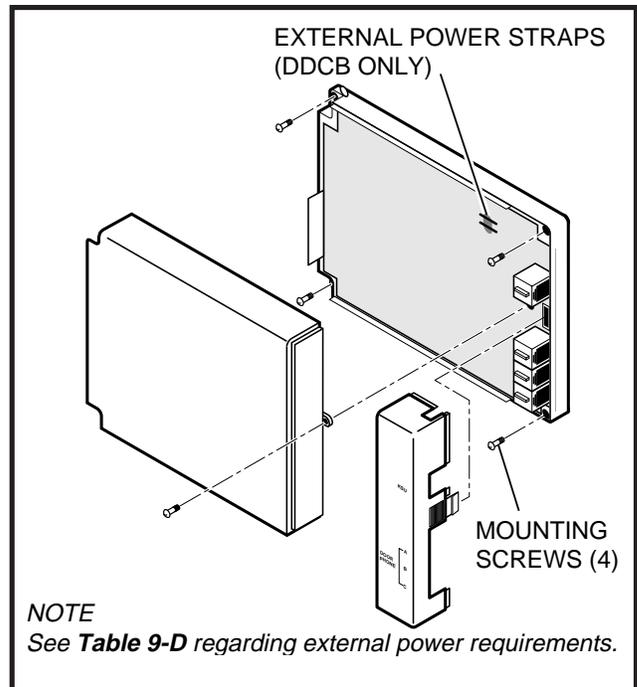

FIGURE 7-16
- 1) Locate the two mounting holes on the right-hand side on the DDCB/HDCB (Figure 7-16).
- 2) Remove the side cover from the DDCB/HDCB to expose the two left-hand mounting holes (Figure 7-16).